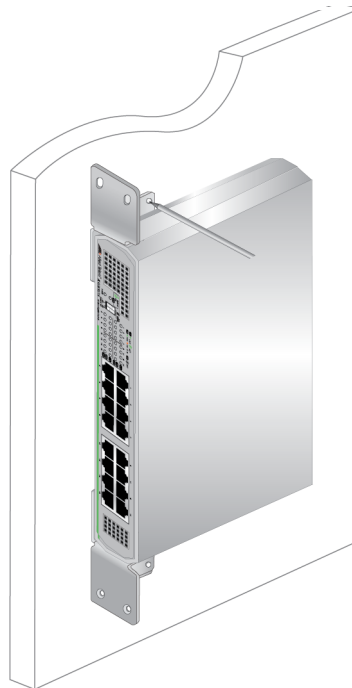

Figure 21. Marking the Screw Hole Locations
4. Have another person hold the switch with the brackets at the wall location where the switch is to be installed, while you use a pencil to mark the wall with the locations of the four holes in the brackets. See Figure 21 as an example.